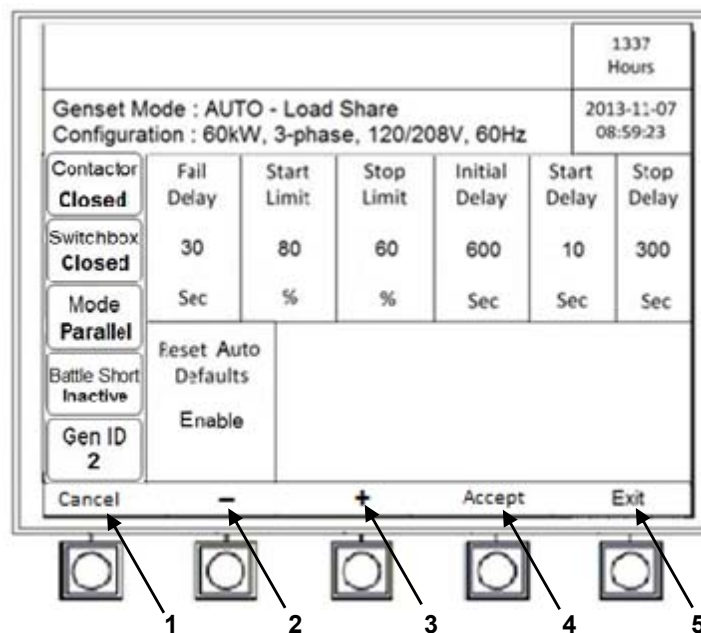

Figure 4-8. System Setup Select Screen
- f. If [Reset Auto Defaults] was selected and restoring defaults is desired, press [Accept] (figure 4-8, item 4). If restoring defaults is not desired, press [Cancel] (figure 4-8, item 1).
- g. Press [+] (Figure 4-8, Item 3) or [-] (figure 4-8, item 2) and [Next] to adjust parameter.
- h. Once parameter is adjusted, press [Accept] (figure 4-8, item 4).
- j. Press [Exit] (figure 4-8, item 5) to sync Auto mode settings and return to the [Auto Mode Main] screen.
- e. Press [+] (Figure 4-8, Item 3) to display [Disable].
- f. Press [Accept] (Figure 4-8, item 4) to disable Auto Mode.
- g. Press [Exit] (Figure 4-8, item 5) to save settings and return to [Main Screen] screen.
- (1) Turn engine control switch to OFF.
- (2) Push in emergency stop.
- (3) Place main DC circuit breaker into the OFF position.
- (4) Place the dead crank switch into the OFF position.
- e. Press [Accept] (Figure 4-8, item 4) to clear lost generators.
- f. Press [Exit] (Figure 4-8, item 5) to return to [Main Screen] screen